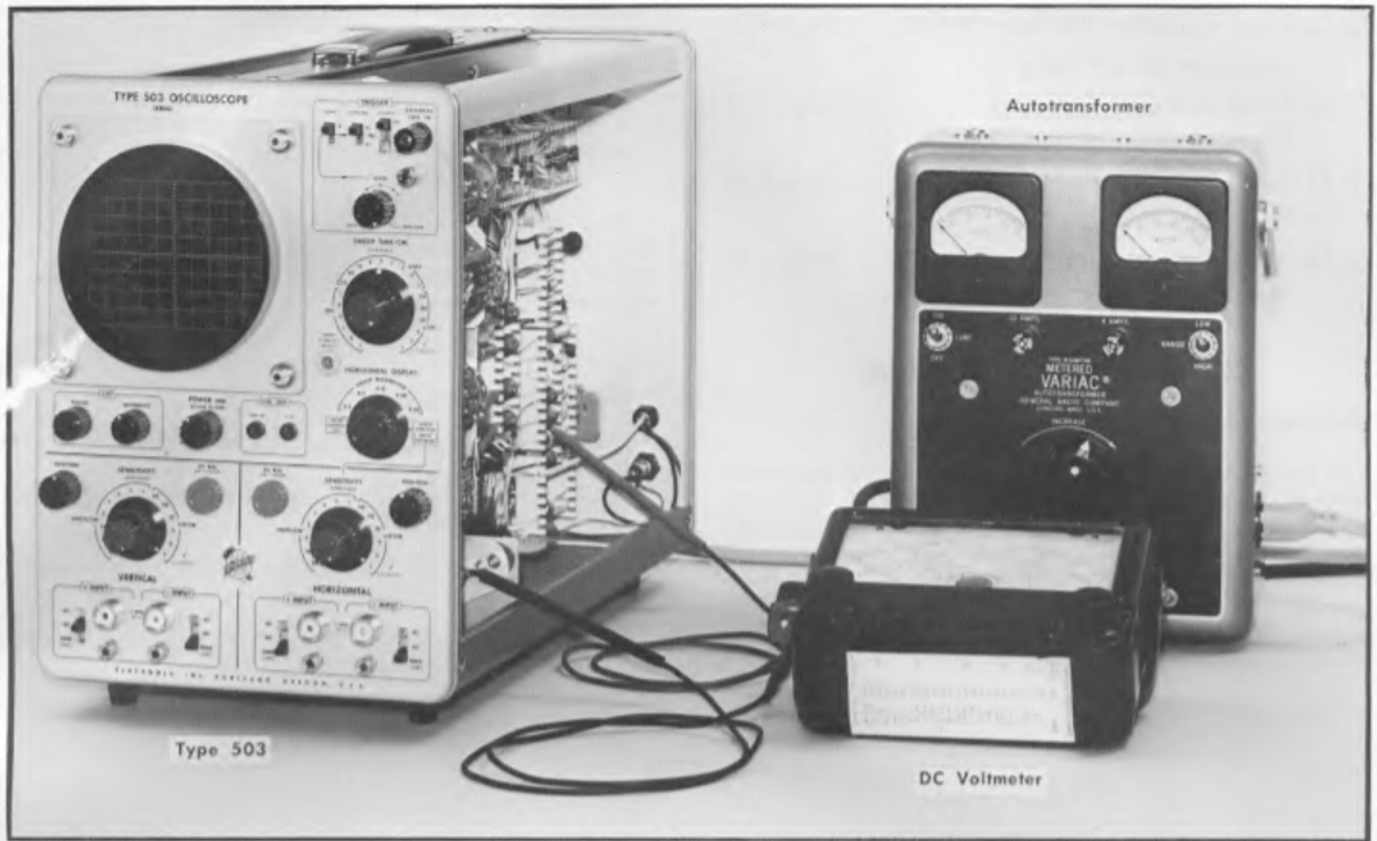

Fig. 6-3. Equipment setup for power supply adjust and check.
- a. Test equipment setup is shown in Fig. 6-3.